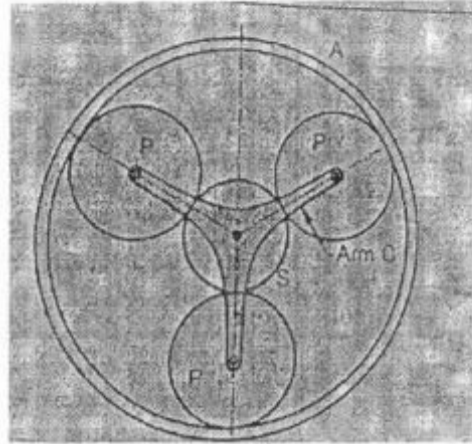

Fig.2
Q.5 a) What are the various types of gear boxes? Explain any one of them in details? (10)
b) A epicyclic gear train as shown in fig.2 has wheel S with 15 teeth fixed (10)